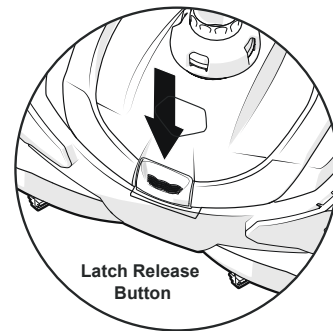

Figure 10. Latch Release Button
1. Push the latch release button on the top of the cleaner (Figure 10) to open the cover.